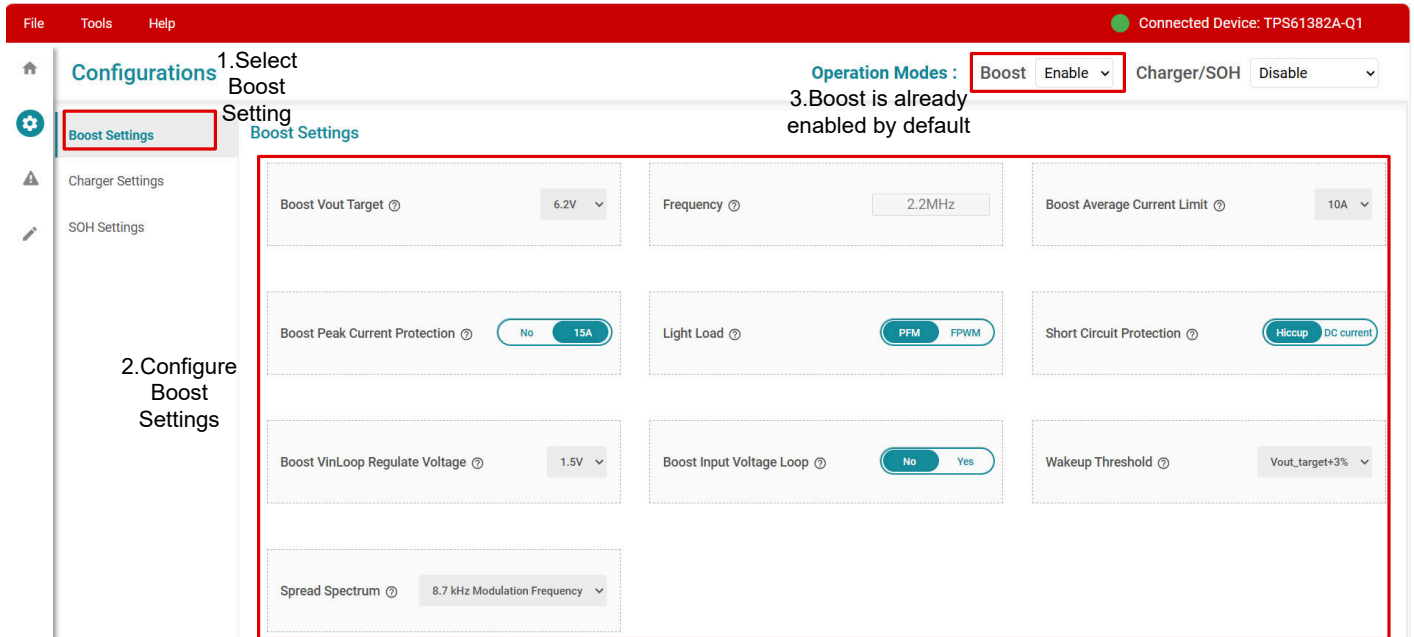

Figure 3-3. Boost Settings Sheet
- Click the *Start* button and the GUI automatically turns on to the Configuration Screen (see Figure 3-3). The TPS61382A-Q1 is set to boost enable by default. The default output voltage is 6.2V. Set the boost mode output voltage, current limit point, and so forth according to the design target.